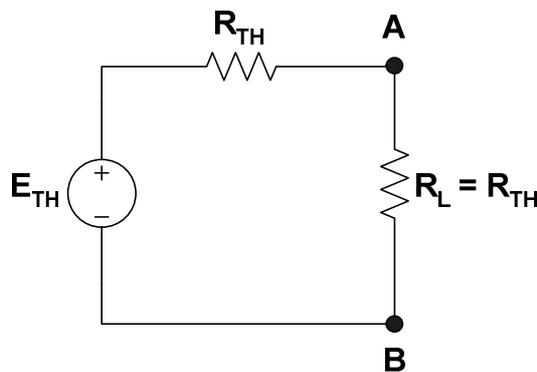

Figure 1: Maximum power output condition
5. Connect a multimeter in the resistance measurement mode (ohmmeter) between A and B. Run the simulation and record the value of the resistor. This is R_{TH} in Figure 1.
4. Draw the Norton's equivalent of the circuit in Figure 1.